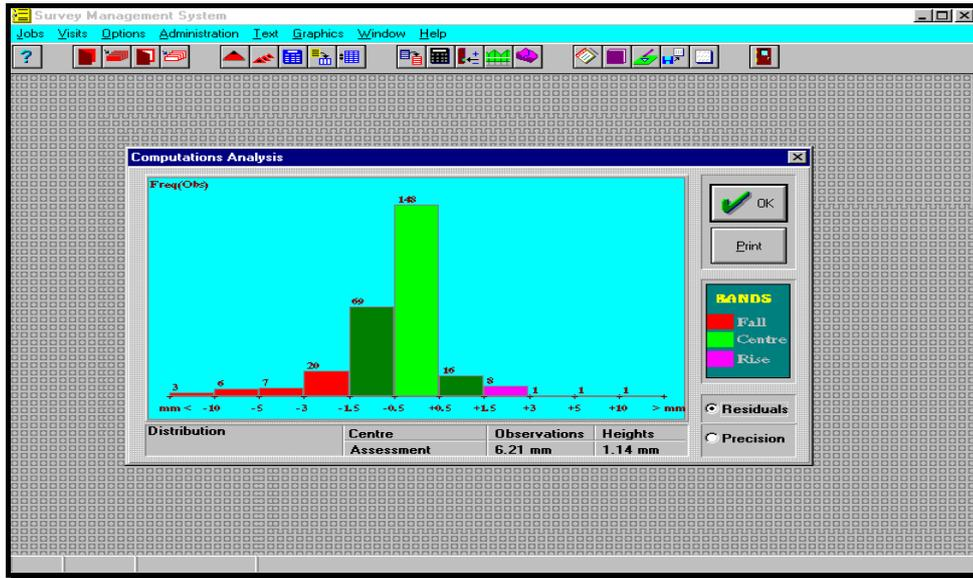

Fig 4.9b
- Select Histogram for Computations Analysis, Fig 4.9b.